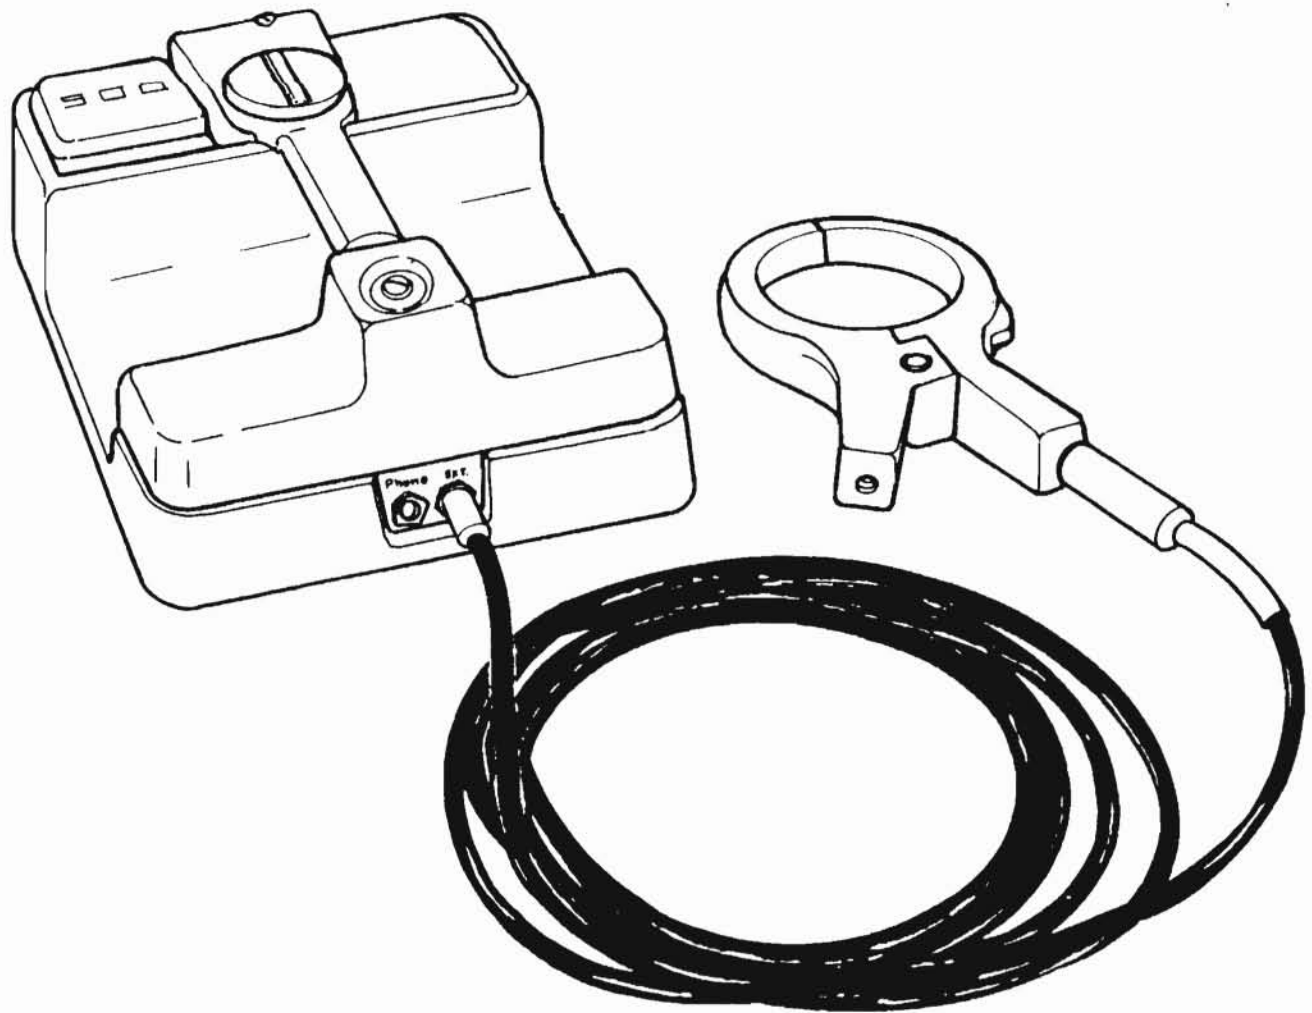

Fig. 10 – Receiver Setup for Cable Identification
2) With the coupler cable, connect the Dyna-Coupler™ to the receiver **EXT** input jack. Set the **RECEIVER MODE** selector to **EXT**. See Fig. 10.